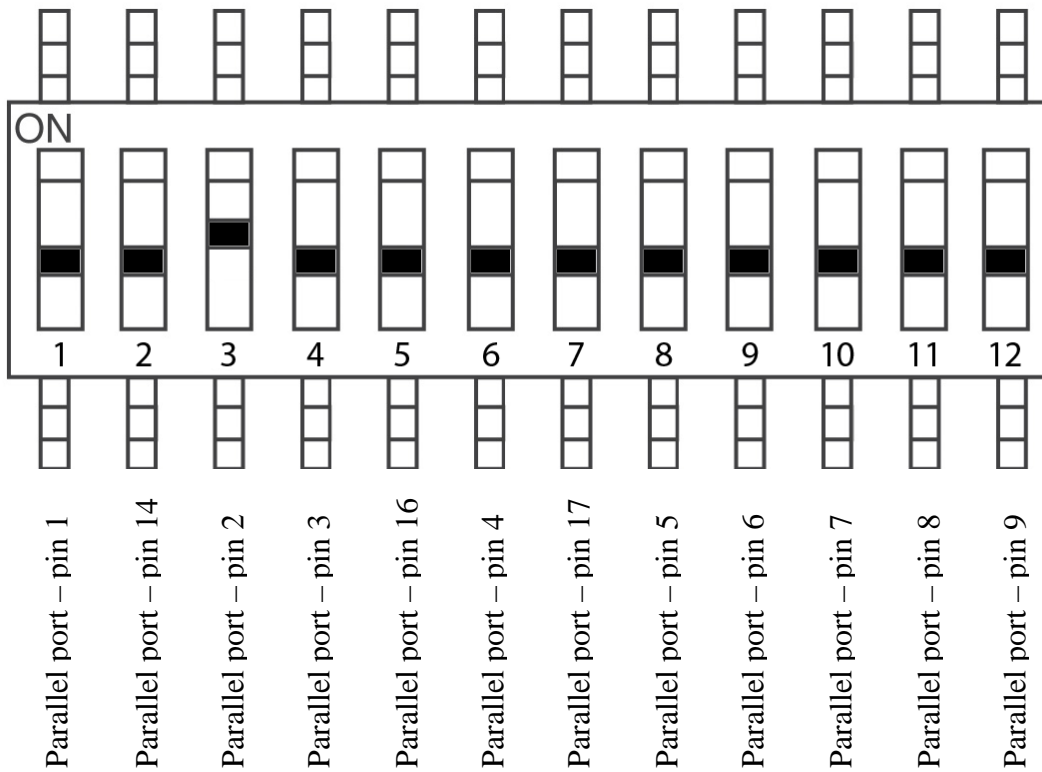

Figure 1 – DIP switch number and corresponding parallel port pin for spindle control
2. Due to the high speed and (relatively) low torque of brushless motors used in radio control, it may be necessary to “gear down” the motor when connecting it to the spindle in order to decrease the speed and increase torque. This is typically accomplished using a belt drive with a small pulley on the motor and a larger one on the spindle drive. An example of such a configuration is shown below in Fig. 1.
2. Locate the DIP switch on the circuit board (pictured in Figure 1)
Select the appropriate parallel port pin which will be used to control the spindle by moving the corresponding switch number to the “On” (Up) position. The DIP switch position number and the corresponding parallel port pin is shown in Table 1 and Figure 1. All other switch positions must be in the “Off” (Down) position. **Operating the RCNC with more than one switch position in the “On” position may cause undesired/uncommanded spindle control and may permanently damage the RCNC and any connected hardware.**
Note: Figure 1 shows the proper configuration for setting up the RCNC to use parallel port pin 2 for spindle control (DIP switch position 3 is in the “On” (Up) position and all others are in the “Off” (Down) position)